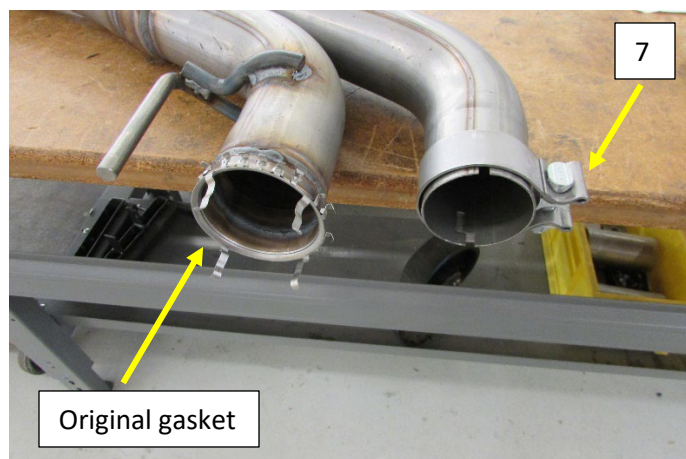
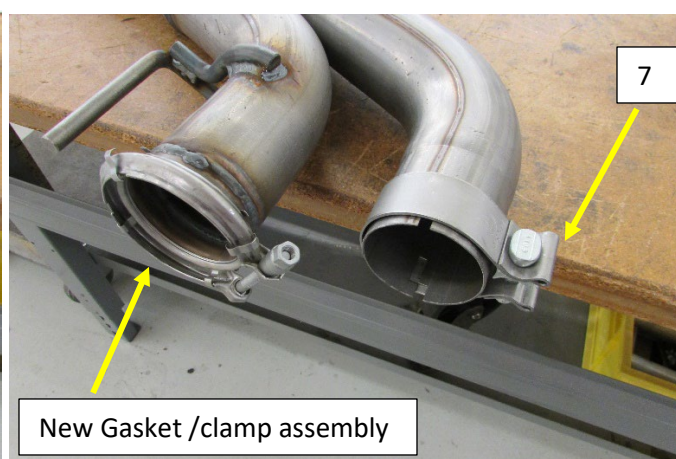

Figure.3
Figure.4
* If you are re using the original mid pipe V-band gasket gasket, follow steps 1-2 below. **Fig.3**
* If you are installing a new OEM V-Band gasket set, follow step. 3 below. **Fig.4**
2. Re install the gasket on to the flange of the Flowmaster Scavenger pipe, clip the small tabs over the flange from one side to the other, bending the tabs as little as possible. **Fig.3 The clamp will be installed after Flowmaster scavenger pipe is installed on the vehicle.**
3. Align the small tabs of the gasket /clamp assembly with the Flowmaster flange. Align the Clamp bolt to the position shown in **Fig.4**. Gently push the assembly on to the flange until the tabs lock in place. * **The new clamp will snap over the flange on the catalytic converter when the Flowmaster Scavenger pipe is installed on the vehicle. No expanding is necessary.**
4. Install the 2 3/4" band clamp (7) on to the expanded end of the Scavenger pipe inlet. **Fig. 3 / Fig 4**